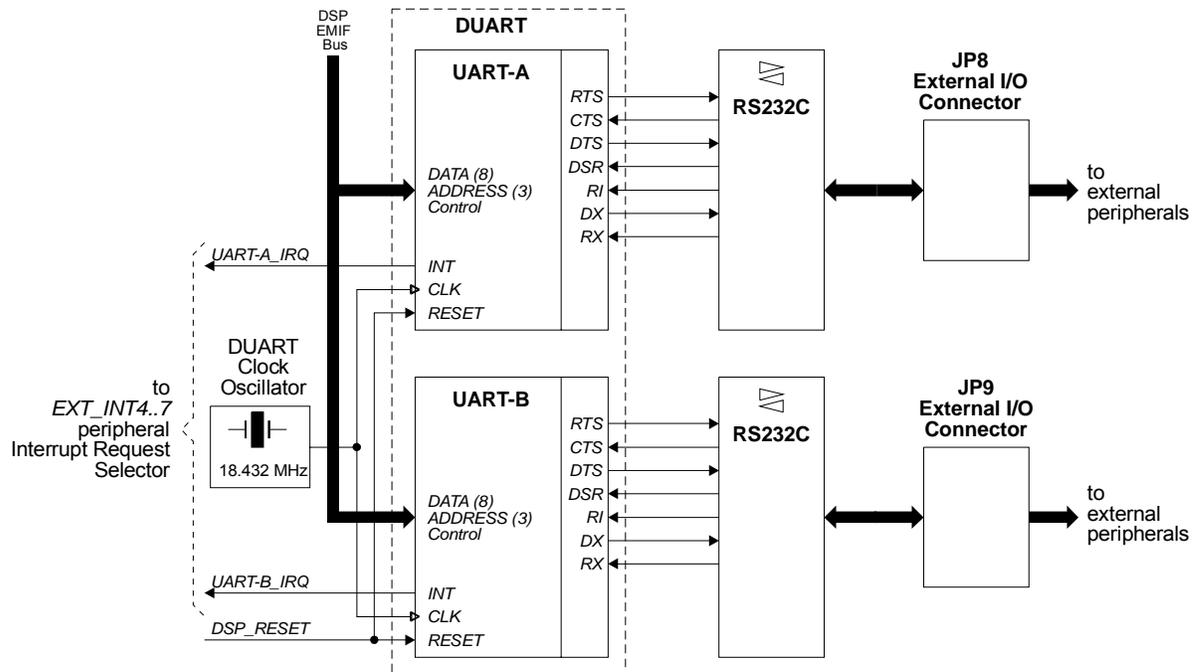

Figure H-1. Connection diagram for *TORNADO-E2/6713* on-board DUART.
*TORNADO-E2/6xxx* on-board DUART is a part of external DSP environment (Figure 2-1). Detailed connection diagram for *TORNADO-E2/6713* on-board DUART is presented at Figure H-1.
DUART is clocked by on-board 18,432 MHz source clock (Figure H-1), which allows generating virtually all industry standard bit rate frequencies up to 1,152 Mbaud. However, for *TORNADO-E2/6xxx* boards, maximum DUART I/O baud rate is 384 kBaud, which is limited by on-board RS232C interfaces.
Hardware reset signal for DUART (Figure H-1) is generated on DSP power-on and reset conditions and applies simultaneously to both UART channels. DUART hardware reset signal is actually the DSP reset signal. When asserted, DUART hardware reset signal resets on-chip control registers for both UART channels to their default states.